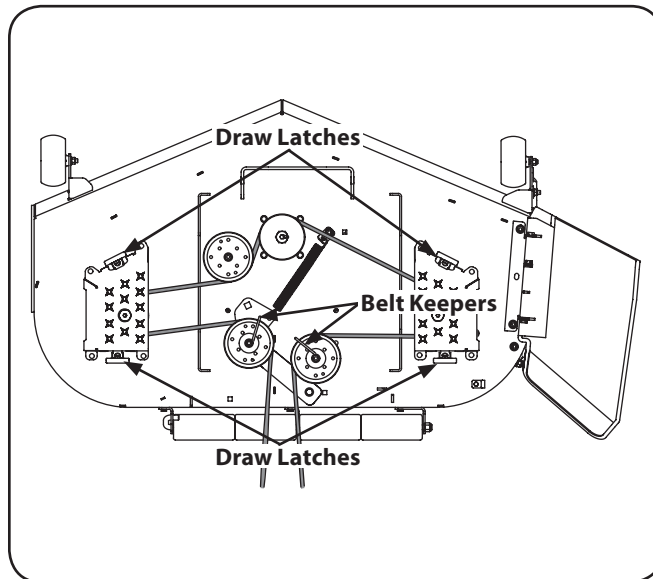

Figure 7-9
2. Pull the four draw latches up and away from the deck covers to unlatch and remove both covers and loosen the belt keepers enough to slide the belt off the pulleys. See Fig. 7-9.